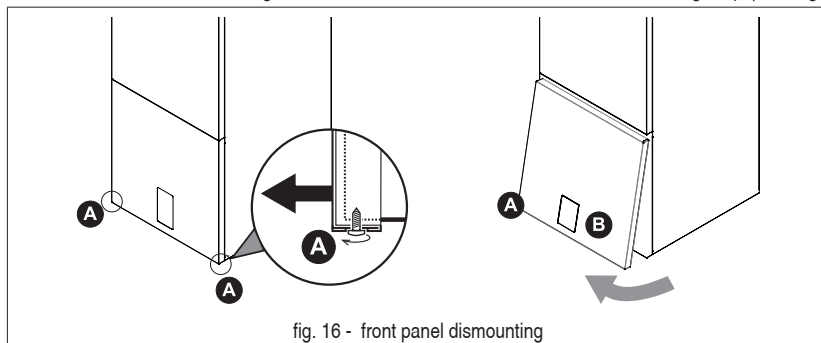

fig. 16 - front panel dismounting
- Partially unscrew the screws A (see "fig. 16 - front panel dismounting").
- Pull the panel B out and release it from the upper fixings (see "fig. 16 - front panel dismounting").